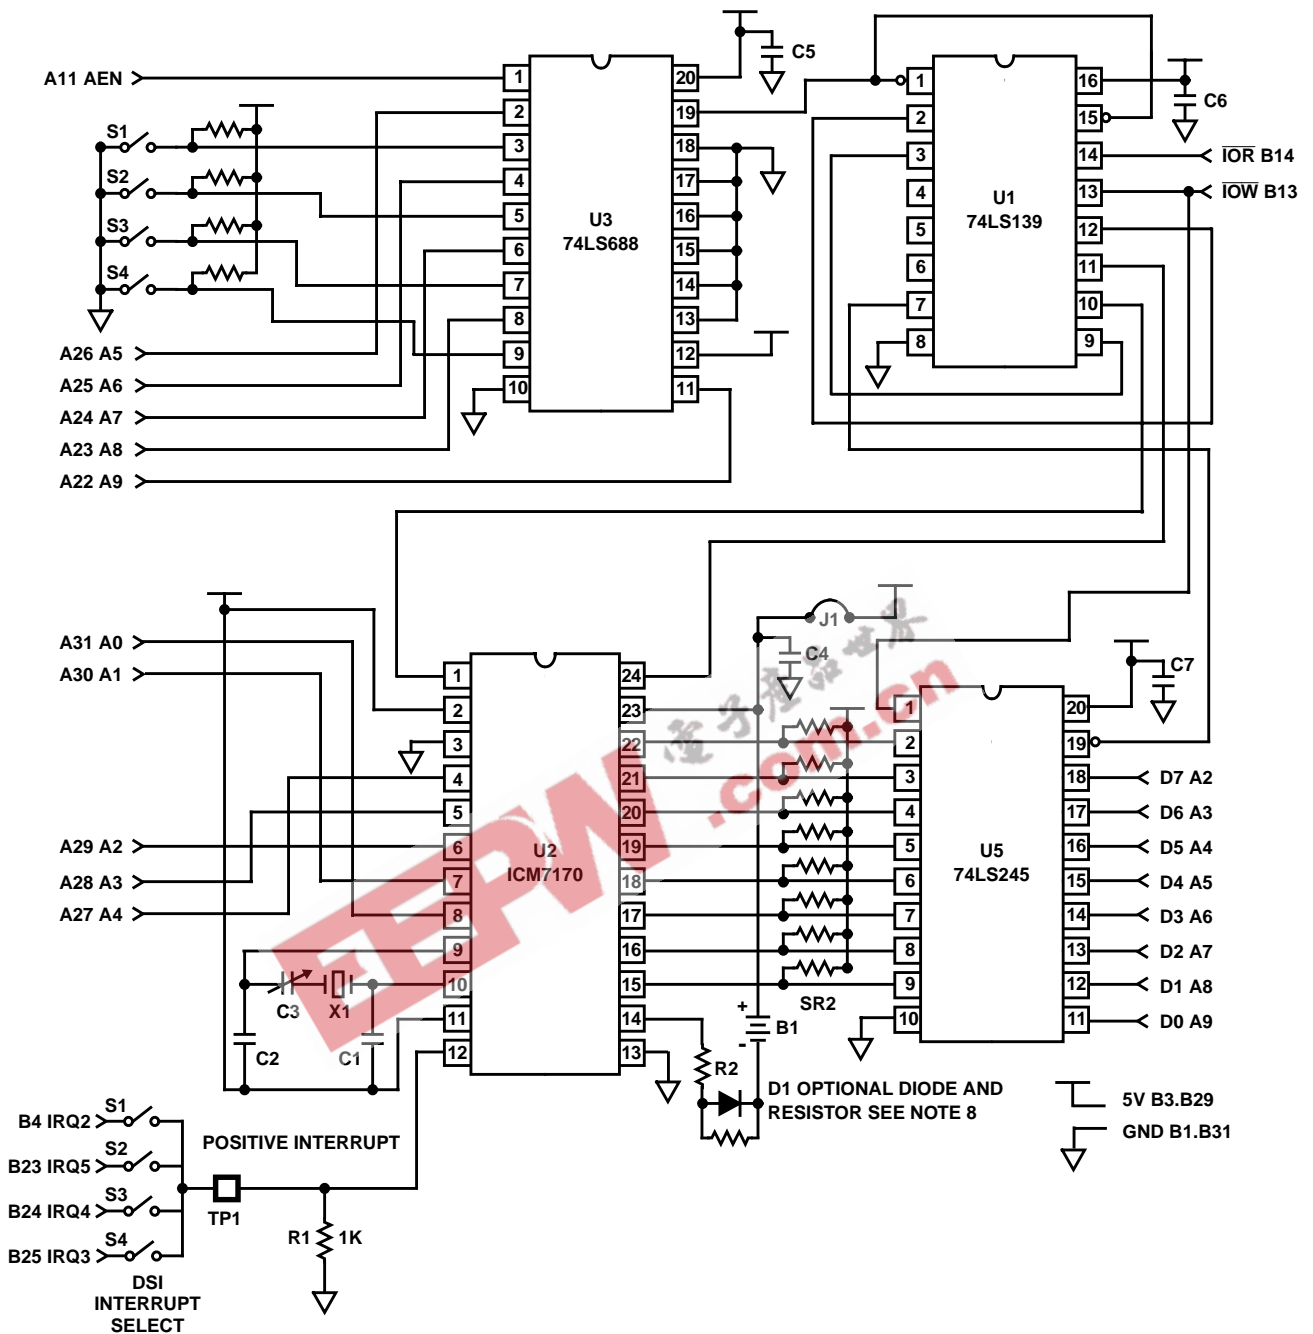

FIGURE 9. IBM PC INTERFACE FOR ICM7170Y
Figure 9 shows the schematic of a board that has been designed to plug into an IBM PC/XT (Note 1) or compatible computer. In this example \overline{CS} is permanently tied low and access to the chip is controlled by the \overline{RD} and \overline{WR} pins. These signals are generated by U1, which gates the IBM's \overline{IOR} and \overline{IOW} with a device select signal from U3, which is functioning as an I/O block address decoder. DS1 selects the interrupt priority.
- 8. V_{BACKUP} DIODE** - Lithium batteries may explode if charged or if discharged at too high a rate. These conditions could occur if the battery was installed backwards or in the case of a gross component failure. A 1N914-type diode placed in series with the battery as shown in Figure 9 will prevent this from occurring. A resistor of $2M\Omega$ or so should parallel the diode to keep the V_{BACKUP} terminal from drifting toward the V_{SS} terminal and shutting off ICM7170 I/O during normal operation.